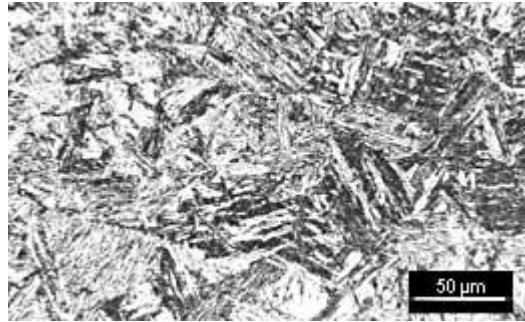

Figure 22 Martensite
- In many cases microstructures very similar to “real micro structures” could be generated by this application, but not all of them (see Figure 22), there are cases where more tools are needed.
- Program could be expanded in many ways, for example by implementing more inclusions types or grains like “needle shaped” (see Figure 22) or creating another module for 3D simulations.